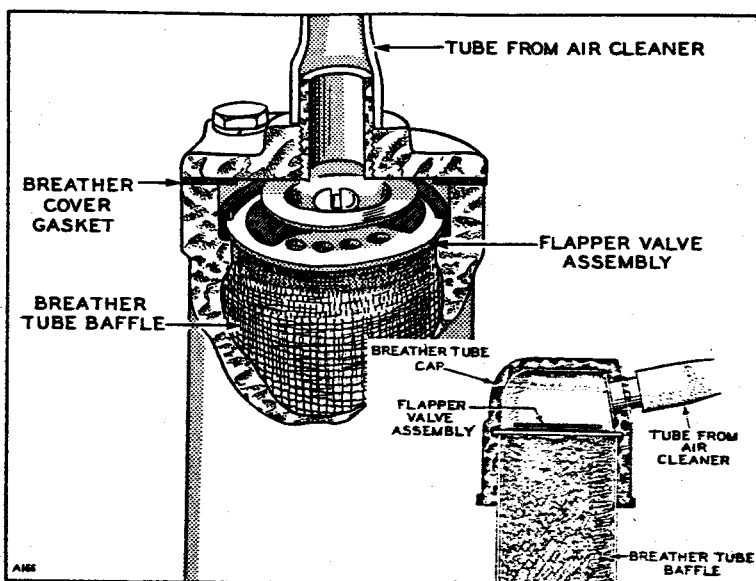

Fig. 15 Crankcase Breather Valve
**CRANKCASE BREATHER VALVE.** - The crankcase breather valve helps to maintain a slight vacuum inside the engine crankcase while the engine is running. If the flapper type valve becomes gummed up or otherwise inoperative, the crankcase vacuum will be destroyed and excessive oil consumption or oil seal leakage may result. After removing the valve, Fig. 15, clean thoroughly in gasoline or other solvent. Replace the valve with a new one if the flapper diaphragm is worn or otherwise damaged so as to prevent proper seating to the perforated disc.